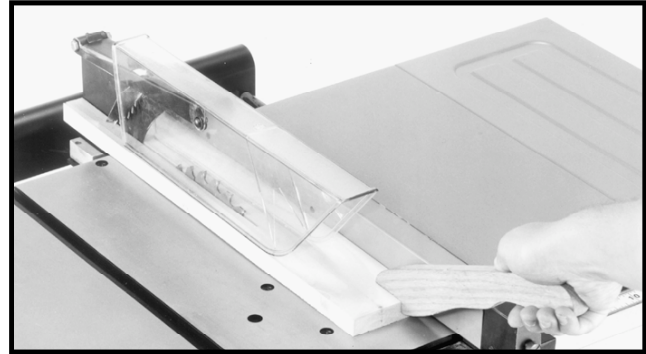

Fig. 47
2. If the ripped work is less than 4 inches wide, a push stick should always be used to complete the feed, as shown in Fig. 47. The push stick can easily be made from scrap material as explained in the section “**CONSTRUCTING A PUSH STICK.**”